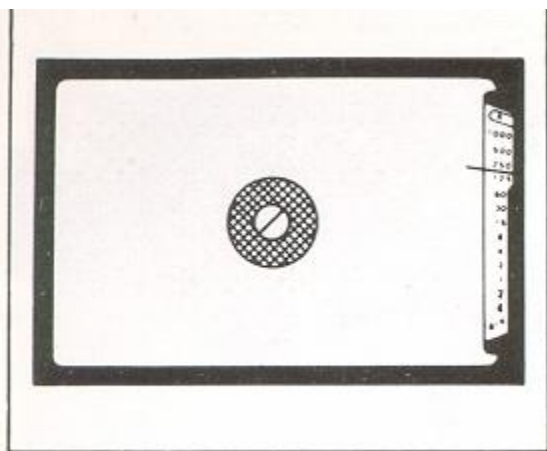

Fig. 18
1. Turn Shutter Speed Dial (8) until the "AUTO" is set opposite
Shutter Speed Index Line (7) (Fig. 17). Shutter Speed Indicator (42) in the viewfinder indicates "A", showing that the camera is set for automatic exposure control (Fig. 18).